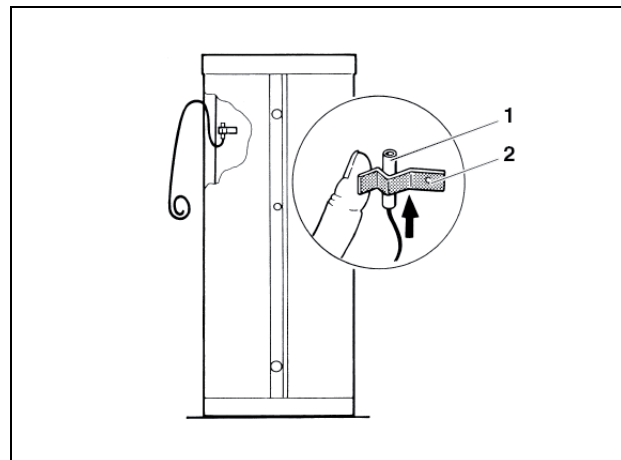

Fig. 7 Contact sensor assembly
- Push the sensor (Fig. 7, [1]) under the spring (Fig. 7, [2]). The sensor contact surface must lie flat and firm against the outside of the DHW tank wall.